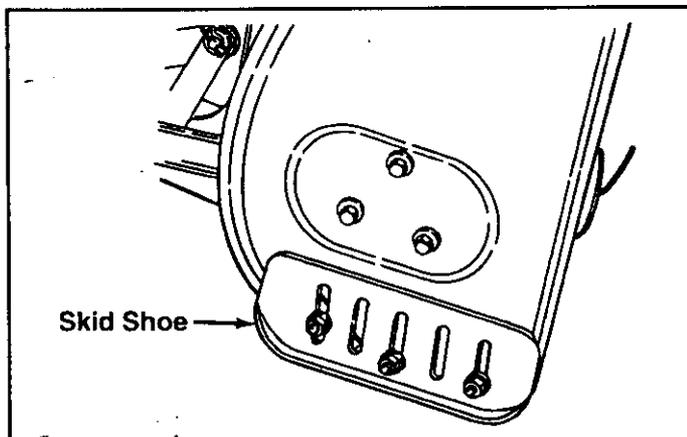

FIGURE 28
(Refer to figures 28 and 29 on page 17)
- Raise the snow thrower off the ground and place a block under each end of the scraper plate. Loosen the six hex nuts securing the skid shoes to the housing. Adjust the skid shoes up or down to the desired position and tighten the nuts securely. Adjust both skid shoes to the same height to keep the housing and the scraper plate level. See figure 28.